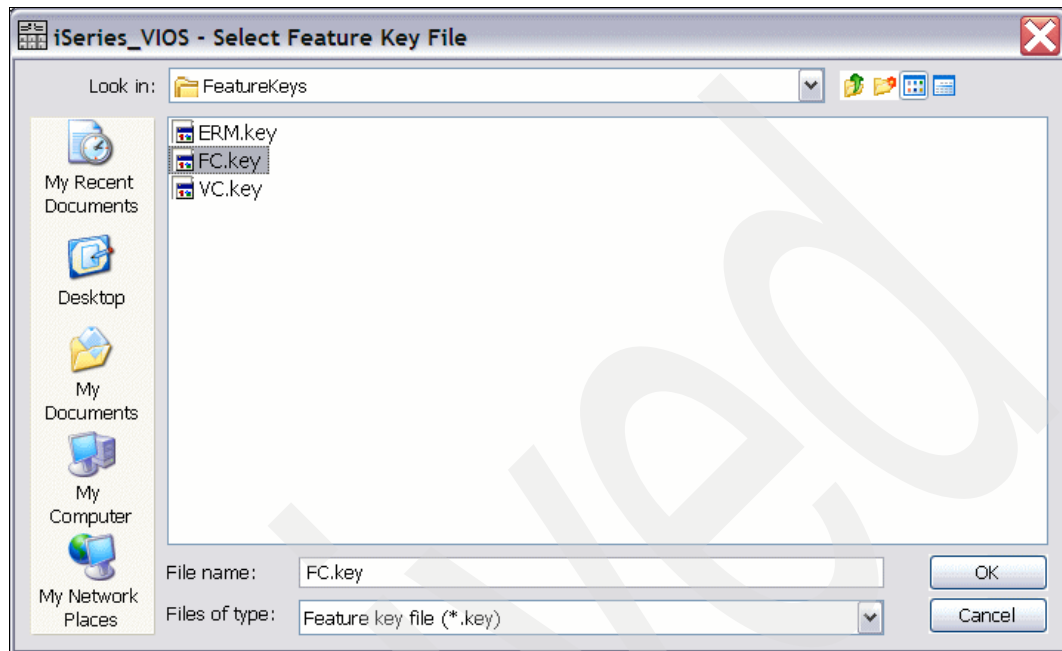

Figure 8-2 Select the file with keys
- b. This brings up the Select Feature Key File window, where you select the file that contains the downloaded keys and click **OK**, as shown in Figure 8-2. On the next window confirm that you want to enable the premium feature for FlashCopy.